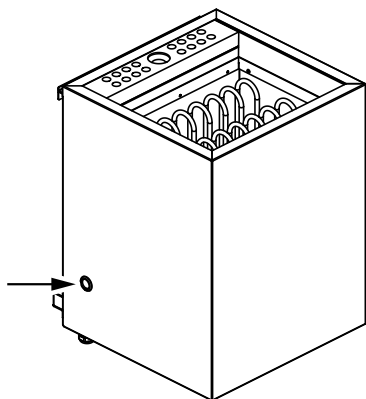

Abbildung 16. Resetting the overheat protector
- Check that the overheat protector has not tripped. (Abbildung 16. Resetting the overheat protector)
- Instructions for resetting the steamer overheat protector (Abbildung 16. Resetting the overheat protector)